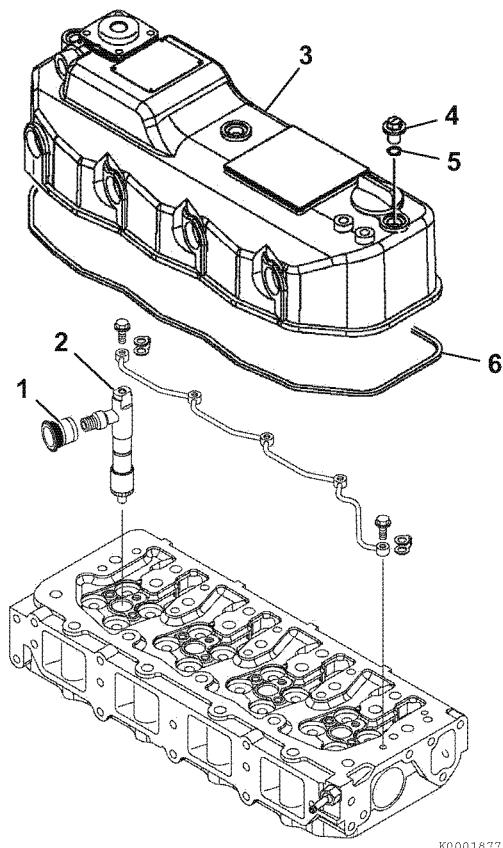

Figure 6-76
1. Lightly grease a new valve cover gasket (6, **Figure 6-76**). Place the gasket in the groove of the valve cover (3, **Figure 6-76**).
3. Be sure new O-rings (5, **Figure 6-76**) are installed on the valve cover nuts. Reinstall and tighten the valve cover nuts (4, **Figure 6-76**).
4. Reinstall the fuel injector grommets (1, **Figure 6-76**).